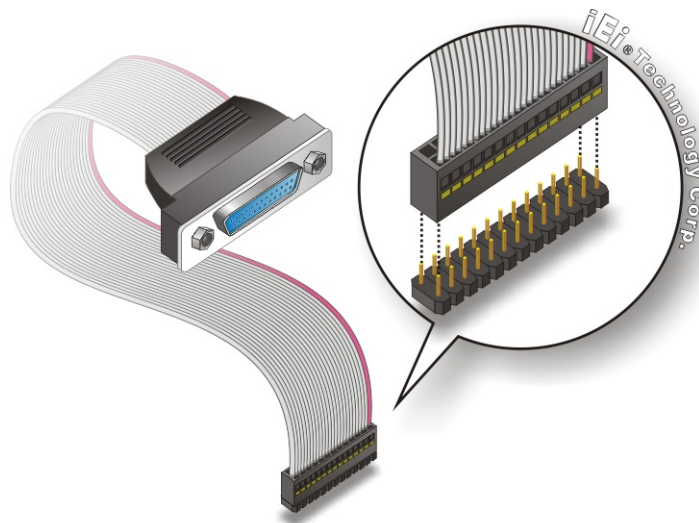

Figure 4-20: LPT Cable Connection
Step 2: Align the connectors. Correctly align pin 1 on the cable connector with pin 1 on the PCIE-9452 LPT box-header connector. See Figure 4-20.
Step 3: Insert the cable connectors Once the cable connector is properly aligned with the 26-pin box-header connector on the PCIE-9452, connect the cable connector to the on-board connector. See **Figure 4-20**.